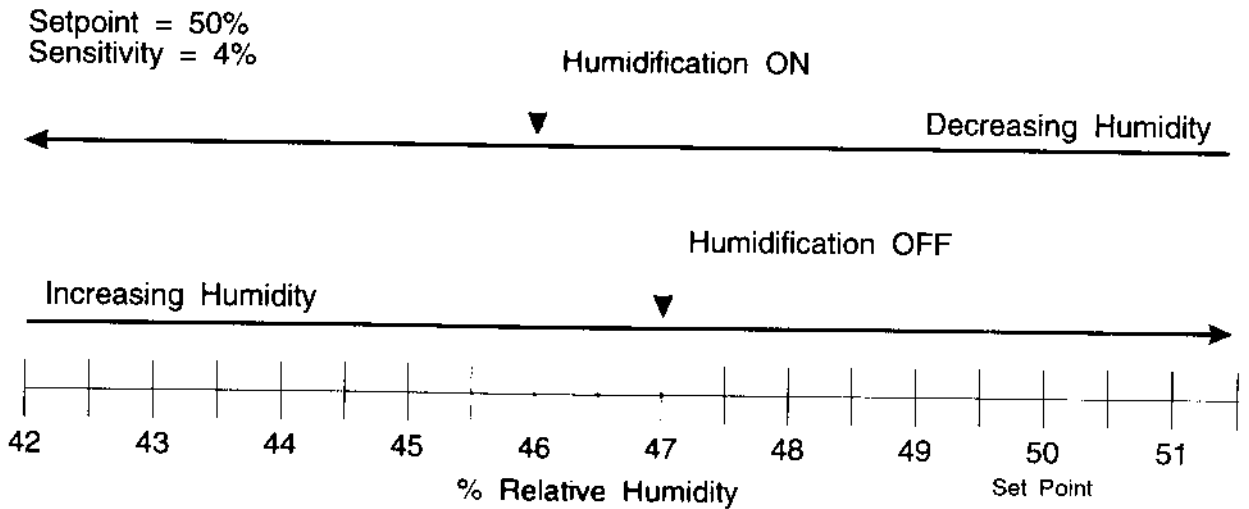

Figure 10 - Humidification control
Consider a system characterised by a humidity (RH), set point (SET) and sensitivity (SENS). The humidification process is initiated when the room humidity falls to $(SET - SENS)$. Water level control begins and humidification follows shortly afterwards. Humidification ceases when the room humidity reaches $(SET + SENS)$. This is shown in Figure 10 for a system having a set point of 50% R.H. and a sensitivity of 4%.